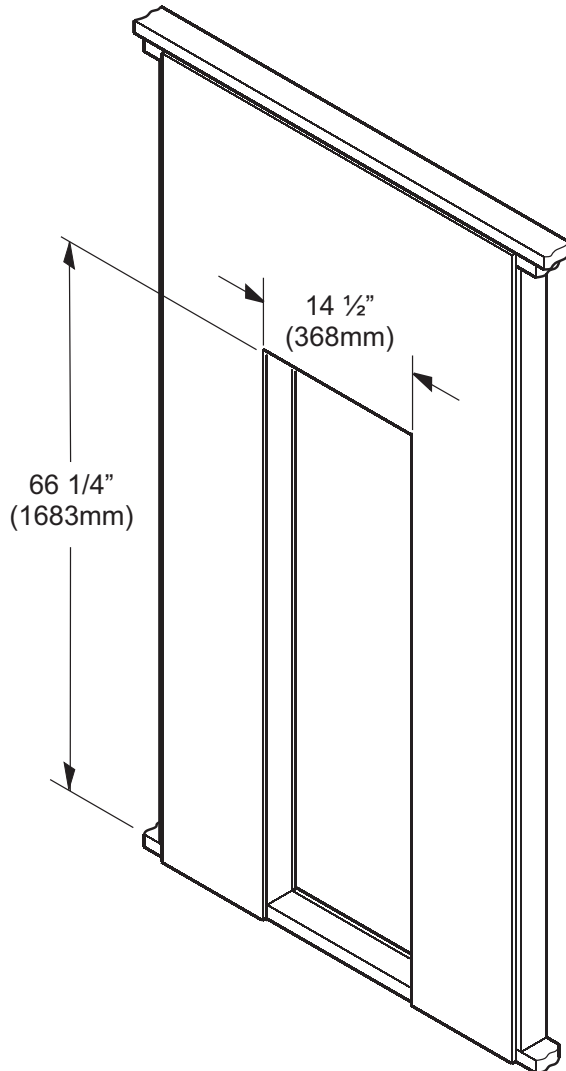
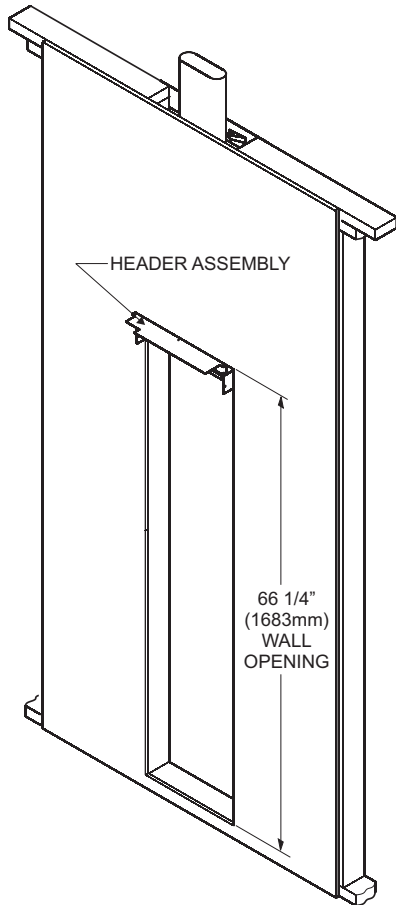

Figure 14
Figure 19
1. Provide an opening in the wall 14 1/2" (368 mm) wide and 66 1/4" (1683 mm) high measured from top of floor plate (See Figure 14 and Figure 19). Wall depth is to be 2" x 4" framing with 1/4" (6.5 mm) to 5/8" (16 mm) sheathing.
Plastering (Figure 19)